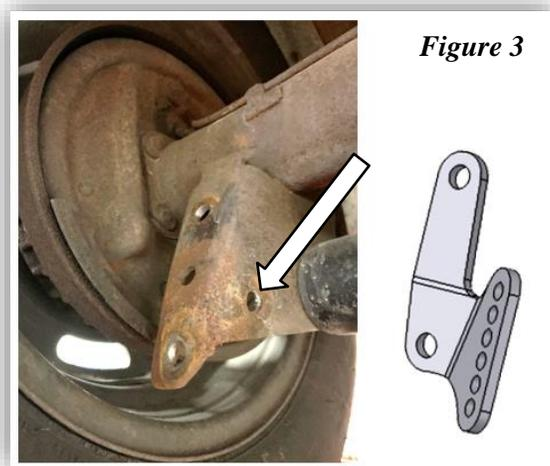

Figure 3
5. The side support bracket will also need to have a hole marked/drilled. **(Figure 3)** Before marking any holes, assemble both brackets with coil-over mounting tabs using the six adjustment holes. Bolt both brackets and both coil-over mounting tabs together using the 3/8" x 1.75" hardware with two washers per bolt/nut. **(Figure 4)** This will ensure your new bolt hole marks are in the correct location.